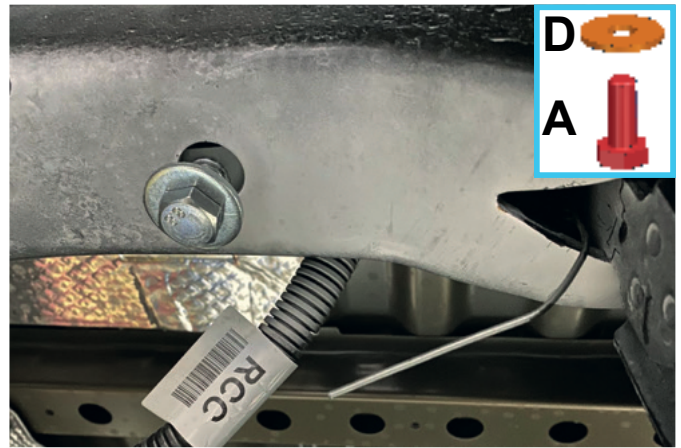

Fig. 6
4. Loosely install M10x25 bolt (item A) and M10 washer (item D) to M10x65 insert nut with wire (item C) as shown in fig.6.